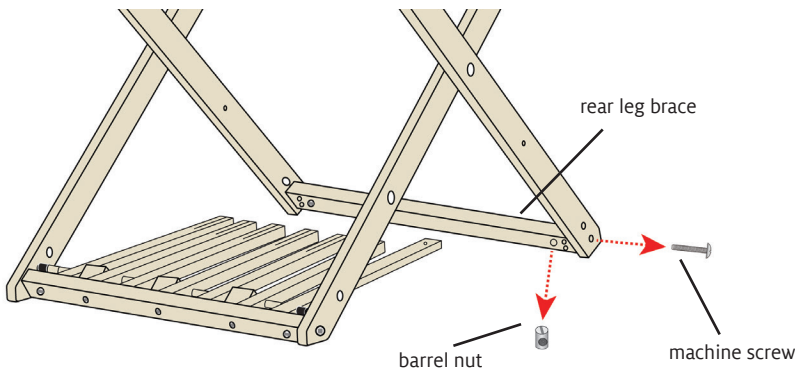

FIGURE 1: REMOVE REAR LEG BRACE
1. Unscrew the machine screws in the outside legs from the barrel nuts in the rear leg brace (Figure 1). Save the barrel nuts and screws for step 4.